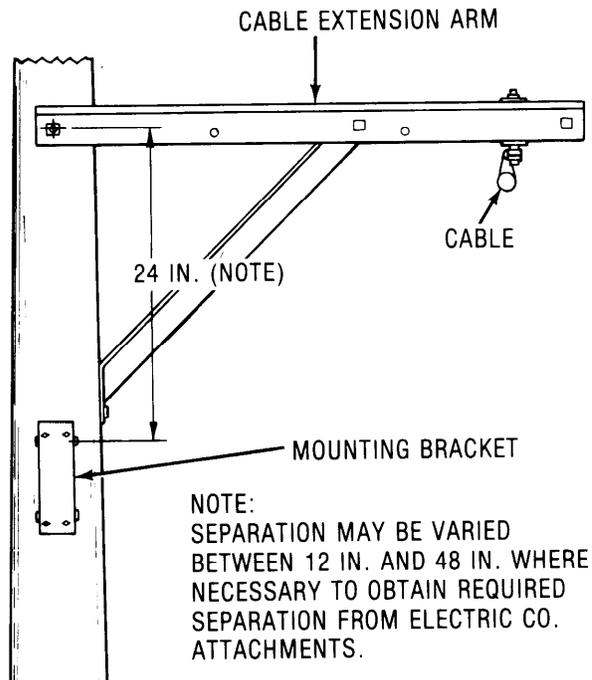

Fig. 6 — Mounting Bracket Installed on a Pole Carrying a Cable Extension Fixture
3.02 Where the terminal is to be placed on a pole carrying a cable extension fixture, locate the mounting bracket on the face or back of the pole as shown in Fig. 6.